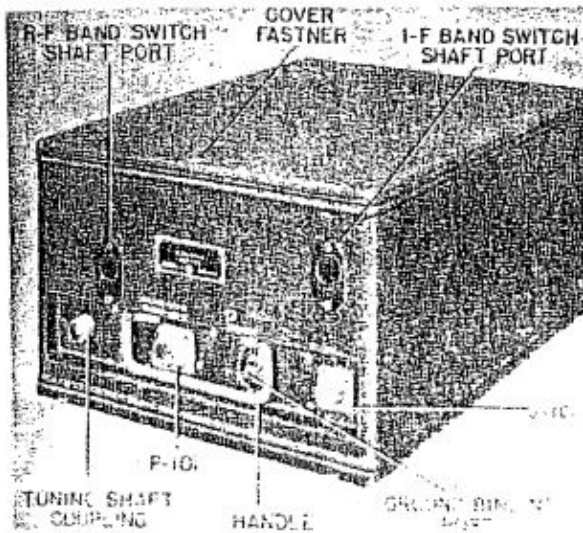
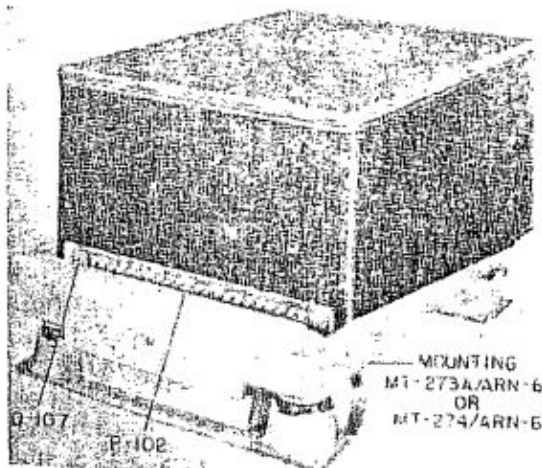

Figure 1-2. Radio Compass Unit R-101/ARN-6 or R-101A/ARN-6
Figure 1-3. Radio Compass Unit R-101/ARN-6 or R-101A/ARN-6, Rear View
a. RADIO COMPASS UNIT R-101 ARN-6 AND R-101A ARN-6. (See figure 1-2.)—The radio compass unit is contained in a rectangular shaped aluminum housing with removable top and bottom covers. Attached to the top cover is a spare vibrator. A recess in the front panel contains the connectors for the loop cable and antenna transmission line, a "GROUND" binding post, the tuning shaft fitting, and a carrying handle. A recess in the rear panel contains a male contact connector strip which fits into a female connector strip in the mounting. (See figure 1-3.) Included within the radio compass unit are the circuit elements which make up the compass circuit, a superheterodyne receiver circuit, the automatic loop control circuit, the vibrator power supply circuit, and necessary circuits